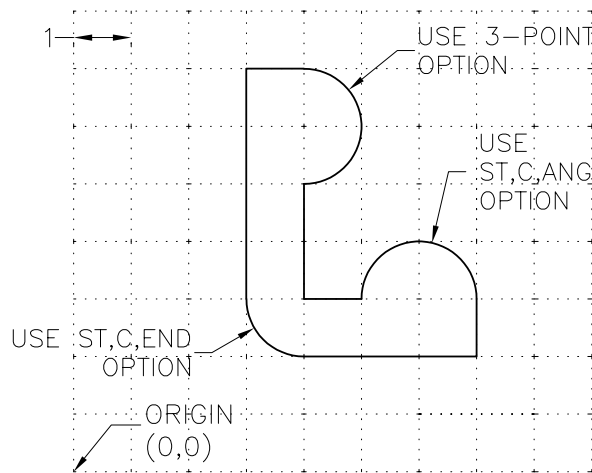

Figure 3-6 Drawing for Exercise 2
- Draw the profile shown in Figure 3-6. The distance between the dotted lines is 1.0 unit. Create the arcs by using different arc command options as indicated in the figure.